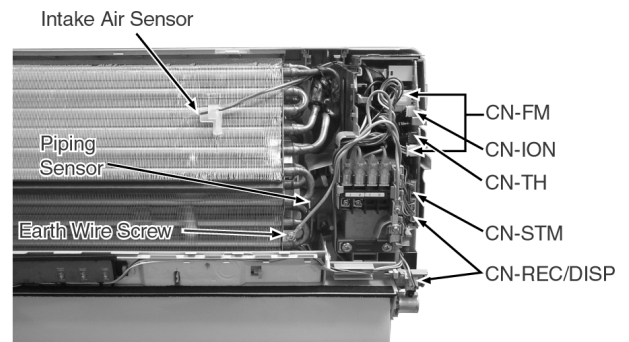

Fig. 4
- Releasing CN-REC/DISP connectors. (Fig. 4)
- Releasing CN-FM connectors. (Fig. 4)
- Releasing CN-ION connector. (Fig. 4)
- Releasing CN-STM connector. (Fig. 4)
- Removing the Earth Wire screw. (Fig. 4)
- Releasing the Intake Air Sensor. (Fig. 4)
- Releasing the Piping Sensor. (Fig. 4)